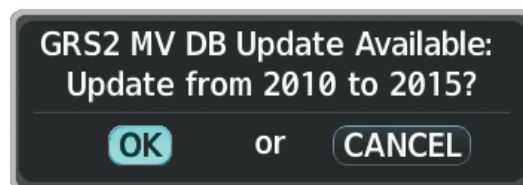

Figure B-10 GRS2 Magnetic Field Variation Database Update Prompt
- 2) When the upload is complete, the prompt for the next GRS upload is displayed, as seen in Figure B-10.